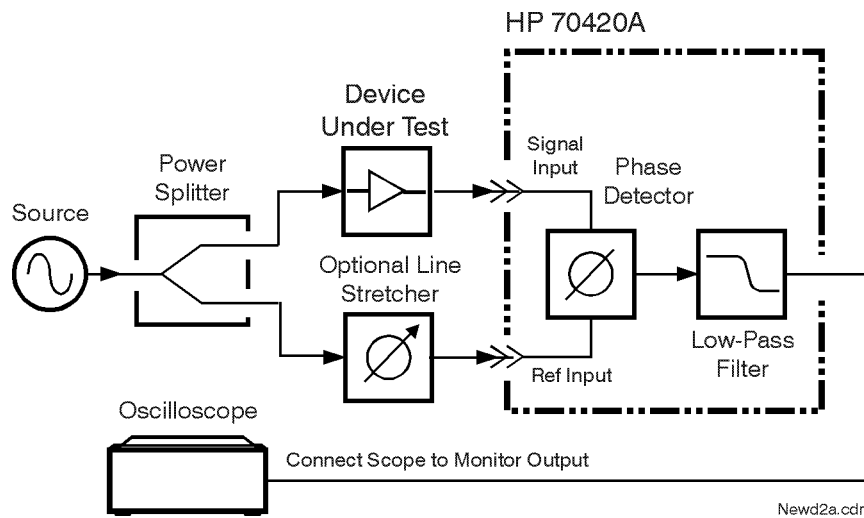

Figure 9-2 *Connection to Optional Oscilloscope for Determining Voltage Peaks*
1. Connect circuit as per Figure 9-2 on page 9-11, and tighten all connections.